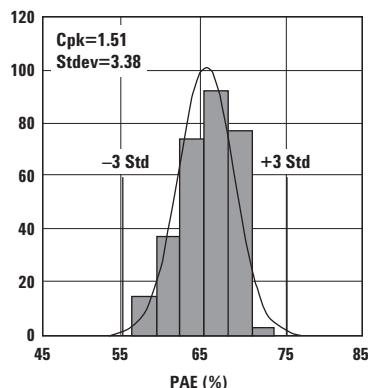

Figure 3. PAE.
**Figure 3.** Simplified schematic of production test board. Primary purpose is to show 15 Ohm series resistor placement in gate supply. Transmission line tapers, tee intersections, bias lines and parasitic values are not shown.